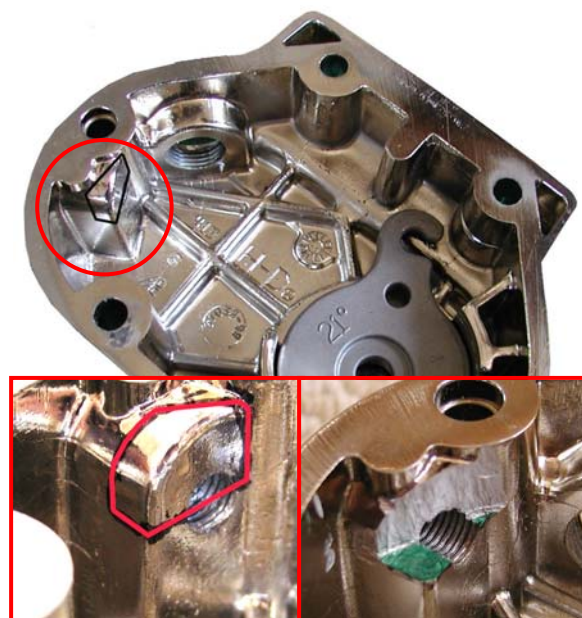

Figure 12
- 7.2 Mill or grind the area indicated in Figure 12. Depth should be to approximately half the depth of the clutch cable hole (inset-Figure 12)